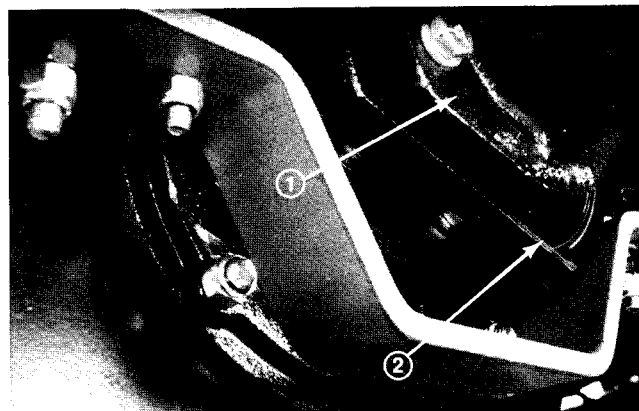

Figure 57
8. Loosen the two set screws securing the pump hub on the engine shaft with an allen wrench (Fig. 57). Remove the two capscrews securing the pump to the pump mount. Do not disconnect any hydraulic lines.